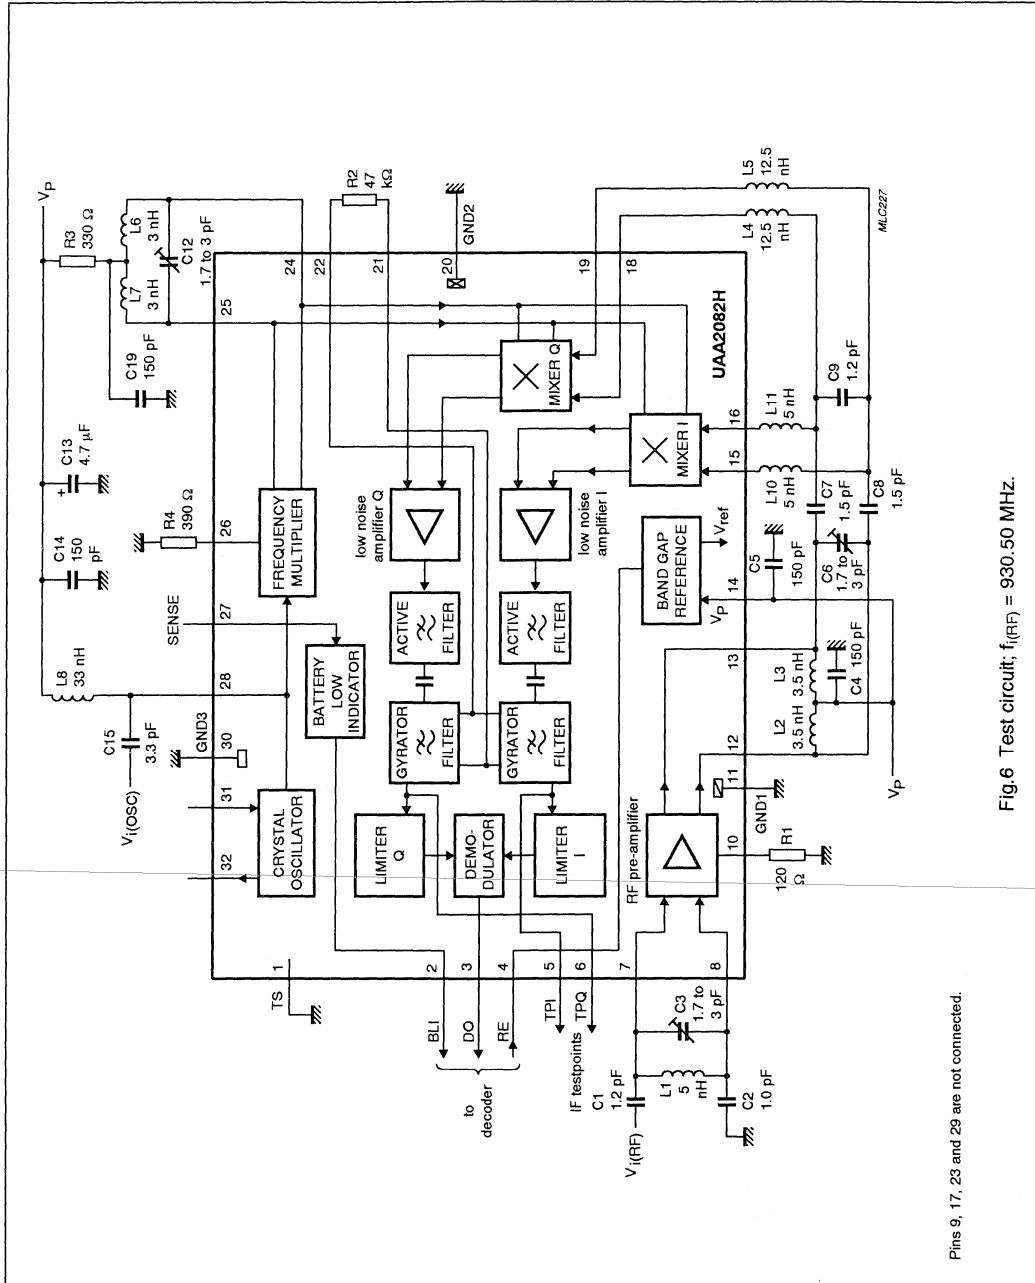

Fig.6 Test circuit;  $f_i(\text{RF}) = 930.50 \text{ MHz}$ .
**Table 3** Tolerances of components shown in Fig.6 (note 1)